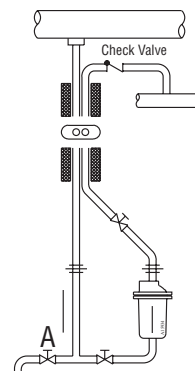

Figure 2-6.
6. If the return line is overhead, run vertical discharge line adjacent to drain line to top of return header and insulate drain line and trap discharge line together. See Fig. 2-6.